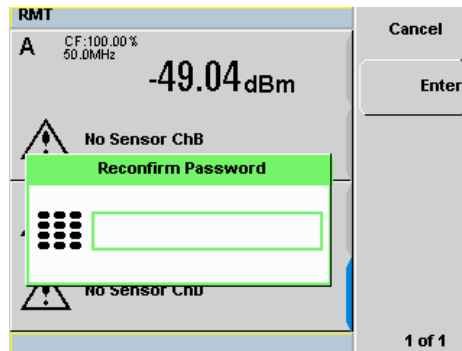

Figure 2-50 Reconfirm password
- 6 The reconfirm password pop-up will be displayed (see Figure 2-50). You will be prompted to enter the password again for confirmation.